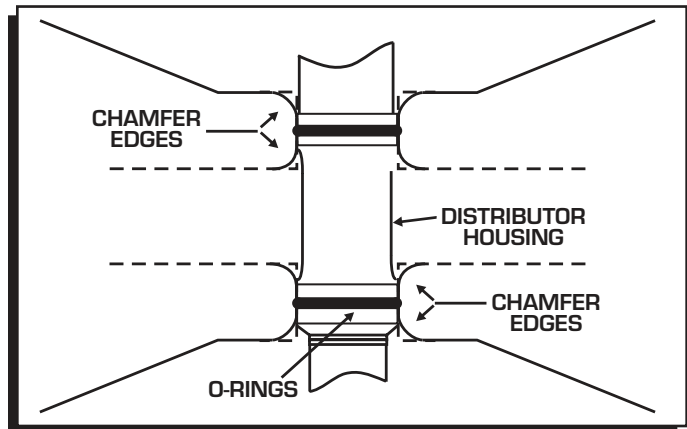

Figure 9 Modified Chevy Block for use with O-Rings.
7. Install the gasket and apply a liberal amount of the supplied lubricant to the distributor gear. (The supplied O-rings can **only** be used if the Chevrolet block has been modified as shown in Figure 9.)